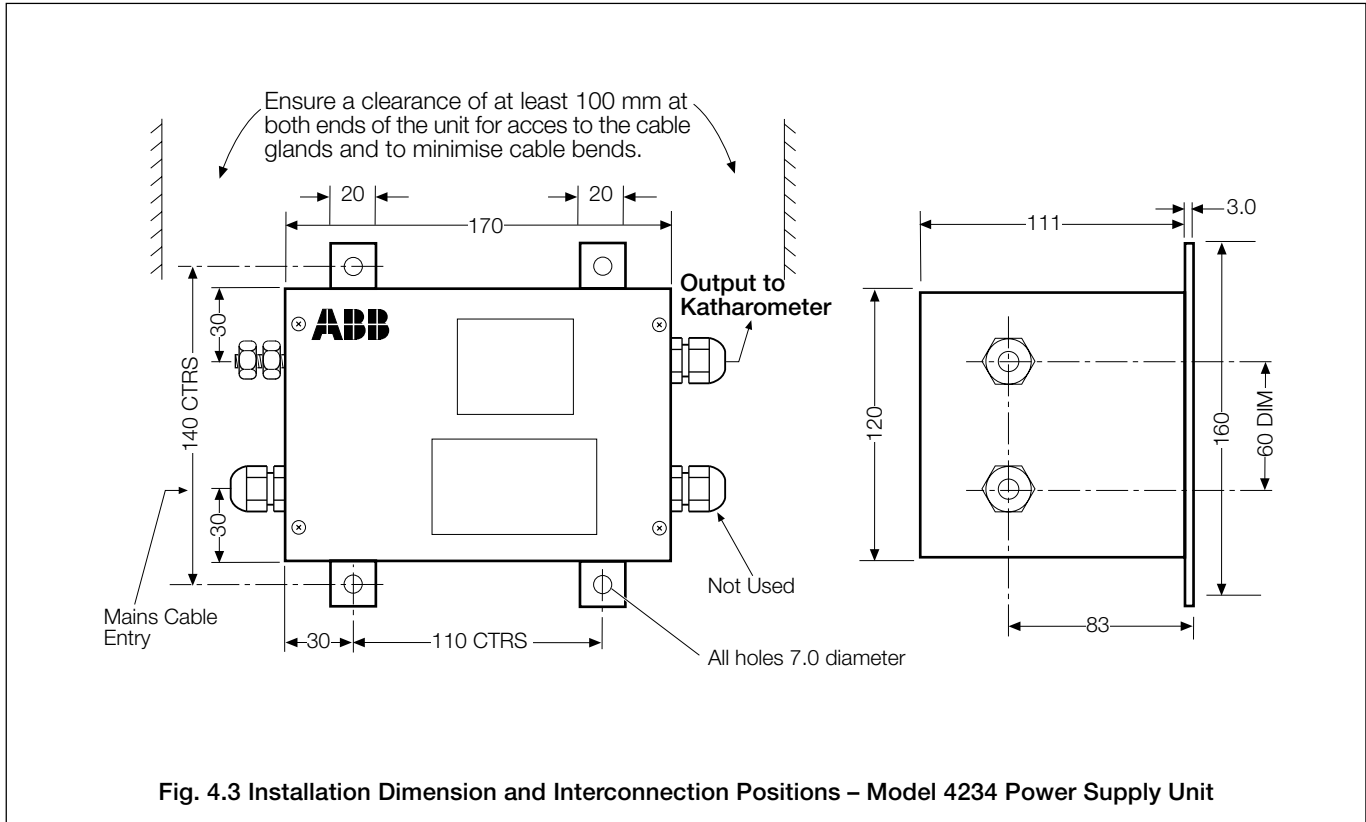

Fig. 4.3 Installation Dimension and Interconnection Positions – Model 4234 Power Supply Unit
4.1.3 Model 4234 Power Supply Unit – Fig. 4.3
The power supply unit has 4 fixing lugs and should be mounted on a suitable vertical surface. The installation dimensions are shown in Fig. 4.3.